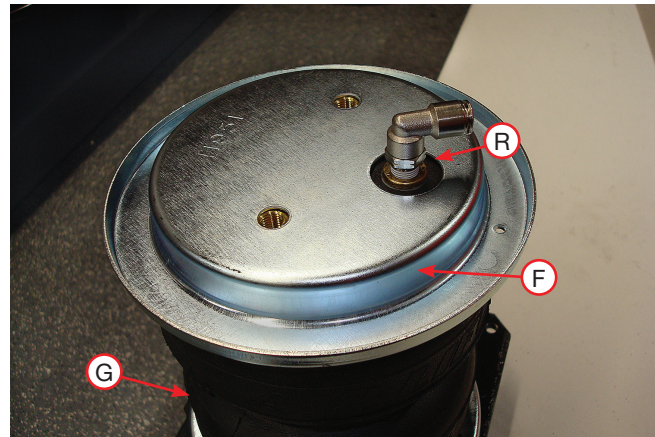

Fig. 13
1. Set a roll plate (F) on top of the air spring (G). The radiused, or rounded, edge of the roll plate should be toward the air spring so that it is seated inside the roll plate (Fig. 13). Install the 90-degree swivel fitting (R) into the port on top of the air spring finger-tight plus 1 1/2 turns.